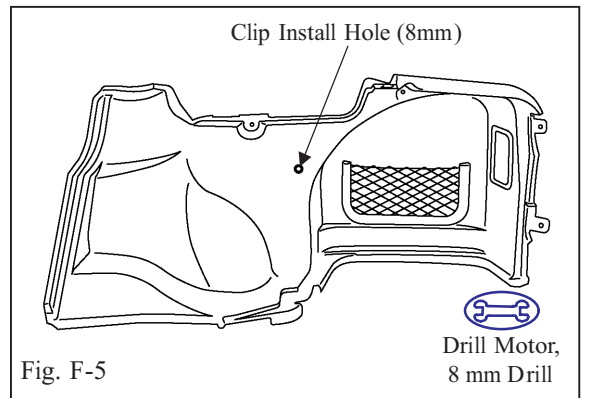

Fig. F-5
- i. Using a drill of 8 mm, make a clip hole in the position (marked in Step A. 2.) shown in the (Fig. F-5).